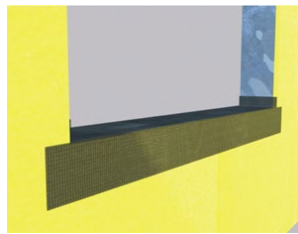

Fig. 2
- 3) Immediately lay the AquaFlash Mesh into the wet material and brush smooth adding additional material to completely embed the mesh - Figure 2